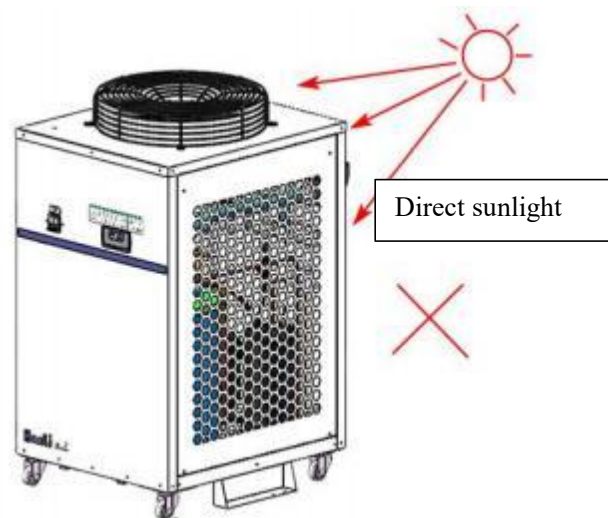

FIG. 5 Environmental requirements for equipment installation
- Products shall not be installed in corrosive, inflammable gas, heavy dust, oil mist, metal and other conductive dust, high temperature and humidity, strong magnetic field, direct sunlight and other harsh environments, as shown in Figure 5.